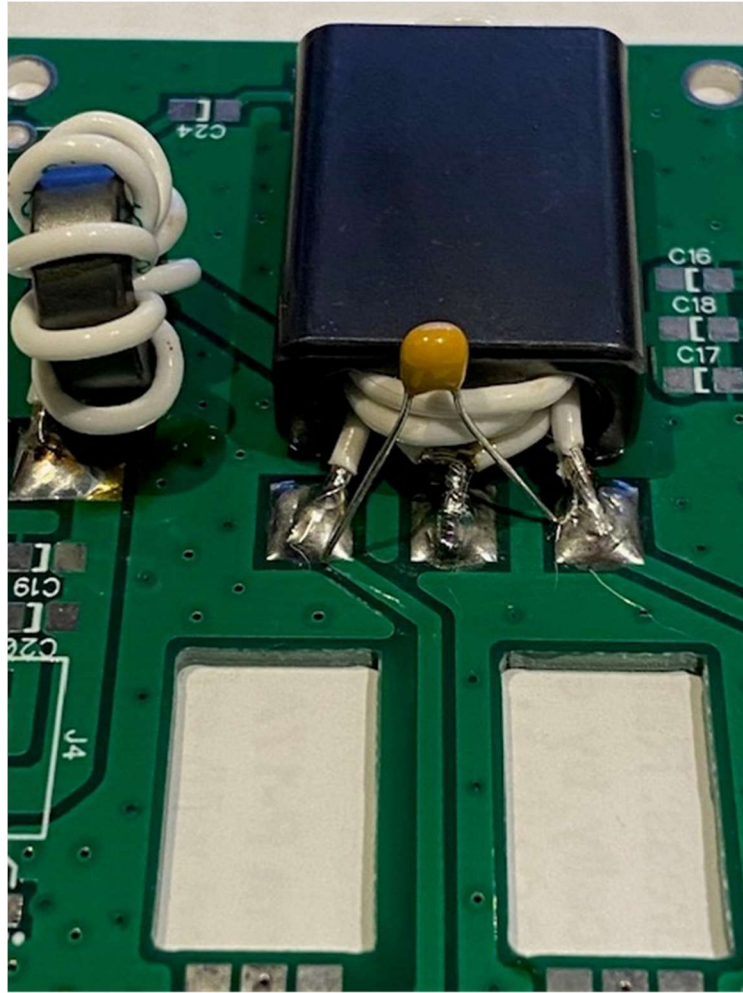

Figure 25. C24 At The Primary Of T3.
26. There is some variation in the mixes of the transformer cores, and that can cause slight variations in the frequency response of the PA. What you may see is less gain at 54Mhz than at 1.8Mhz. C24 (Figure 25) is specifically used to correct this situation and flatten